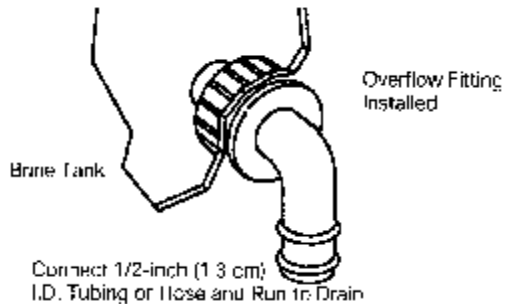

Figure 6 - Overflow Line Connection
2. Insert the overflow fitting (not supplied) into the tank and tighten with the plastic thumbnut and gasket as illustrated in Figure 6.